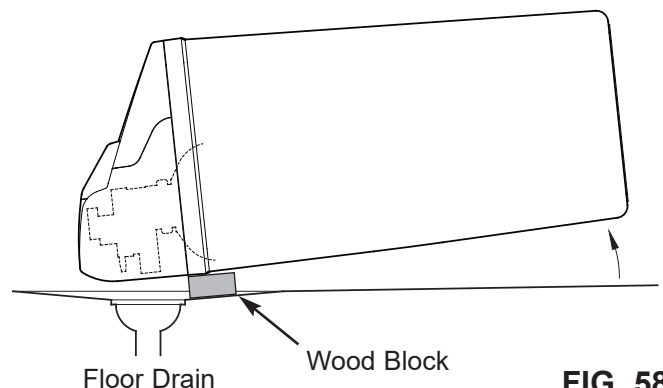

FIG. 58
6. Lay a piece of 2 inch thick board near the floor drain (See Figure 58).